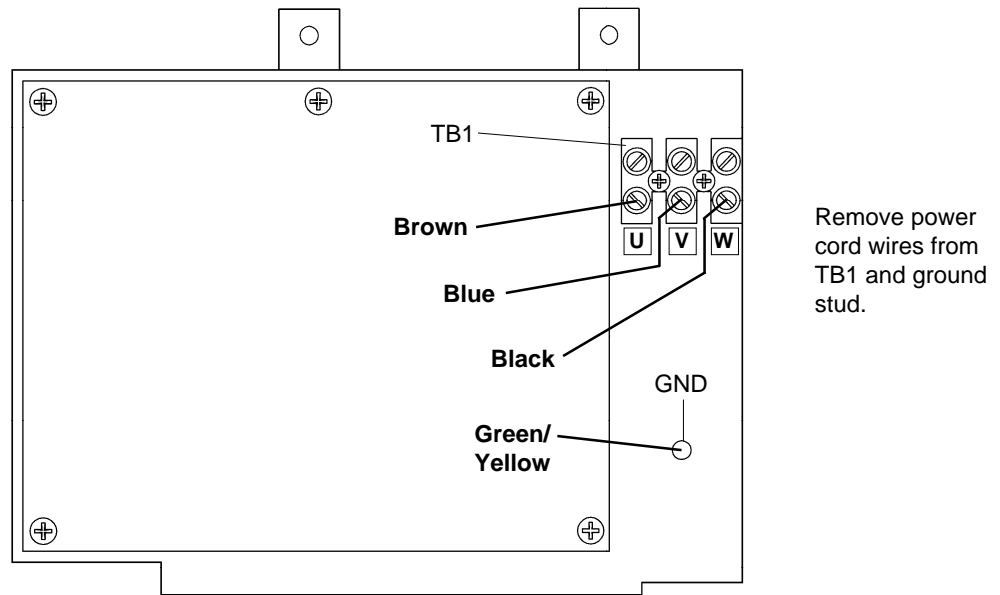

Figure 2-5 Removal of Power Cord from Powermax900 CE Power Supply - 2 of 2
- 3.4. Disconnect power cord from TB1 and ground stud. See Figure 2-5.